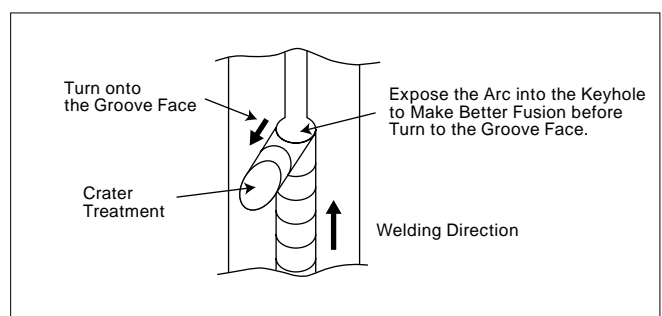

Fig. 6 - How to terminate the weld crater in order to prevent the crater from cracking
- (3) Terminate the crater on the groove face in order to prevent the crater cracking – Fig. 6.